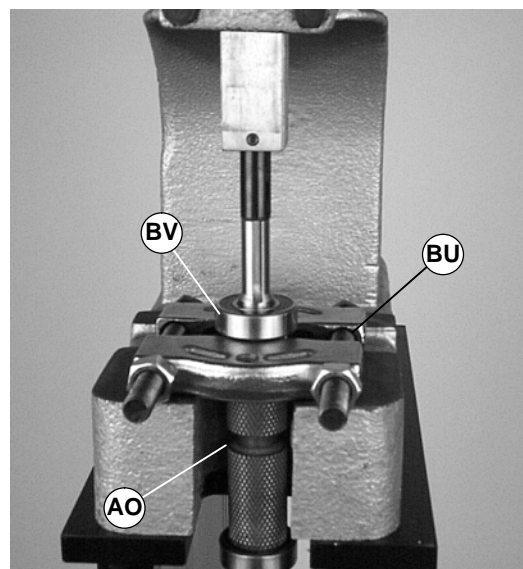

Figure 53
1. Locate drive pulley (AO of Figure 53) in a standard bearing separator (BU) as shown.